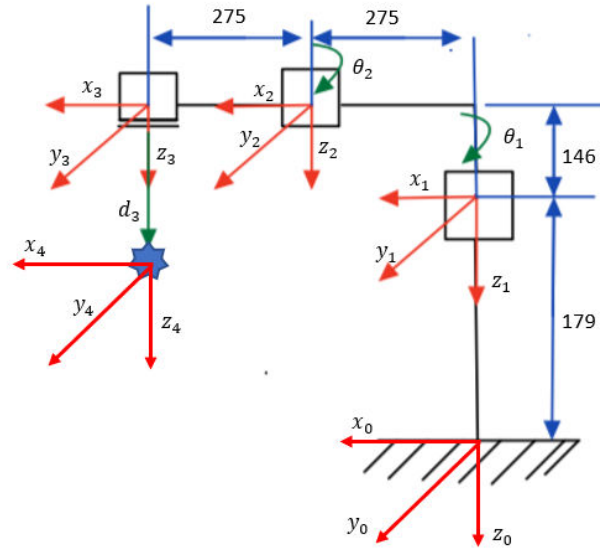

Figure 4 - Simplified HSR Robot diagram with labeled coordinate frames.
Problem 3, involves analyzing the Denso's HSR robot 480mm 100 mm z-stroke robot. This is a 3 degree of freedom robot. Using the Denso's catalog (2), the links of the robots were approximated to produce a simplified diagram of the model, see figure 4. The coordinate frames, joint angles and link lengths are labeled. The 0th frame represents the base of the robot which has no joint, the 1st, 2nd and 3rd frames represent the 1st, 2nd and 3rd joints, and the 4th frame represents the end effector.